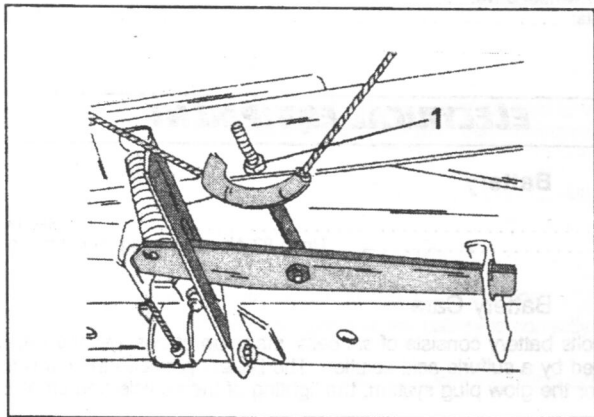

Fig. 8.20. — The nut (1) in the centre of the handbrake cable equaliser bracket is used to adjust the handbrake.
- Repeat the bleeding operation in the given order on the other brake units. Fig. 8.20 shows where the bleeder screws of the front calipers are located. Finally top-up the reservoir to the required level. *Brake fluid drained out the system into the glass jar must, however, not be used to fill the reservoir.*
- Tighten the nut in the centre of the handbrake cable equaliser (Fig. 8.20) until the rear wheels can just be rotated under a fair effort. Re-tighten the locknut.